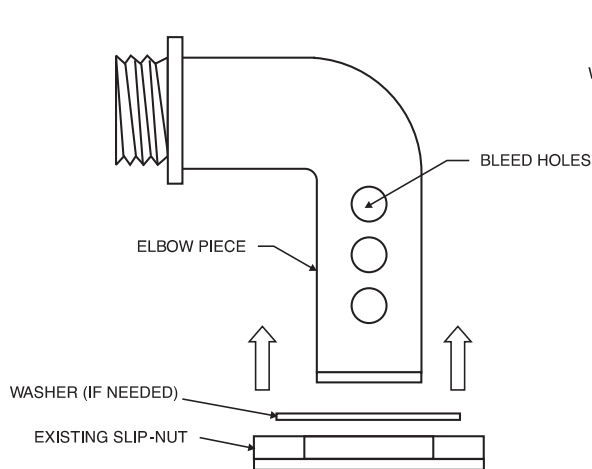

FIGURE 2
2. Remove the slip nut holding the "eyeball" in place from the inlet nearest the shallow end. Select one of the washers (7 or 8) that best fits into the threaded part of the slip nut. Insert the elbow piece (6) throught the opening in the washer and t hen through the slip nut (Fig. 2). Some smaller inlets will not require a washer. This is your inlet adapter.